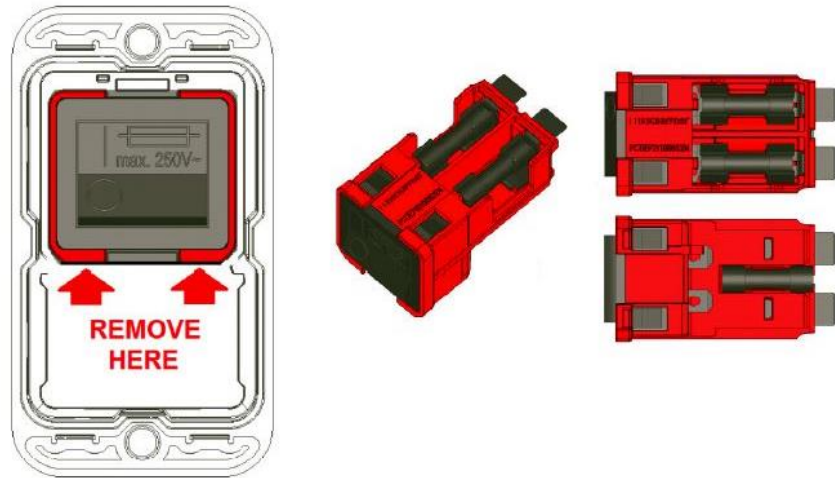

Figure 28
2.) Place the end of a 1/8" flat head screwdriver into one of the holes in bottom of the fuse holder. Pry the fuse holder out of the power entry module. See Figure 28.